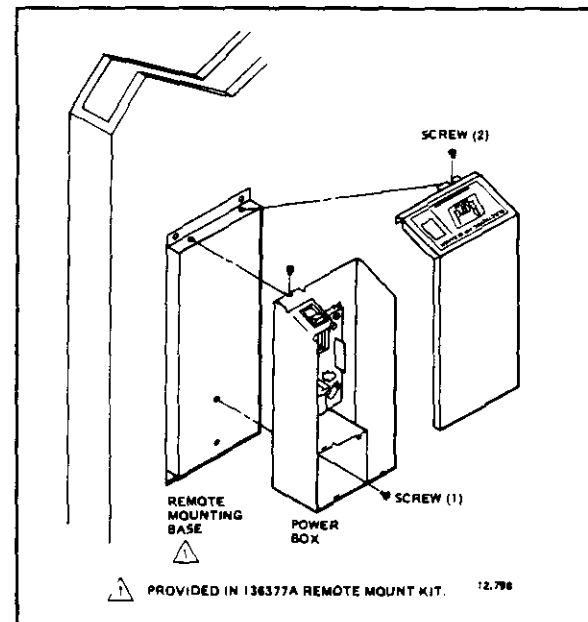

FIG. 17—MOUNT THE POWER BOX ON THE REMOTE-BASE.
- Fasten the power supply box to the base with the two screws removed earlier. See Fig. 17.